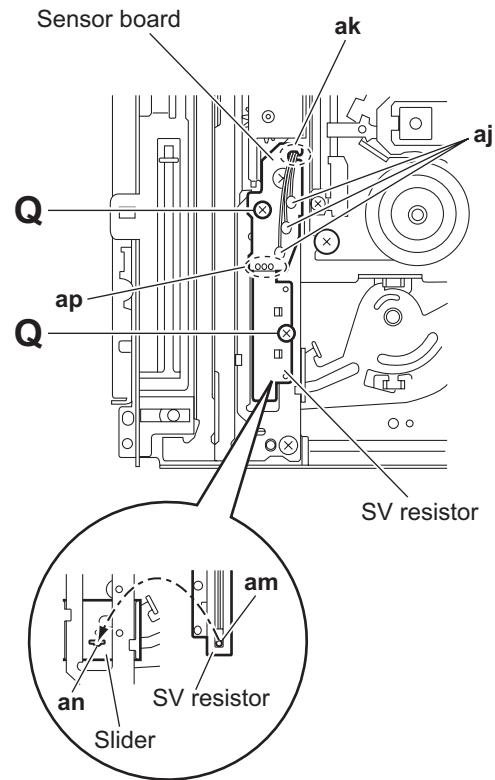

Fig.33
3.2.14 Removing the sensor board and SV resistor (See Fig.33)
- Remove the tray assemblies, side (L), side (R) assembly and lifter assembly.